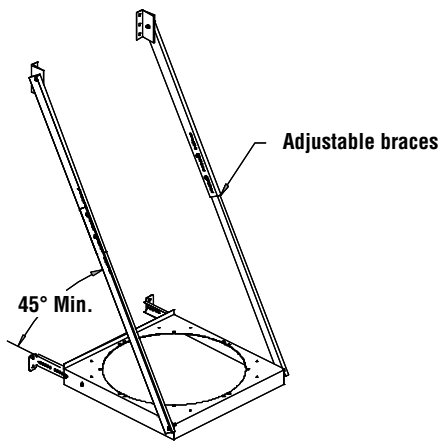

Figure 26 - Adjustable wall support (WS)
2. Used to support the chimney in vertical runs, it maintains the chimney at an adjustable distance between 2-1/2" and 7-1/2" from the wall (see **Figure 26**).